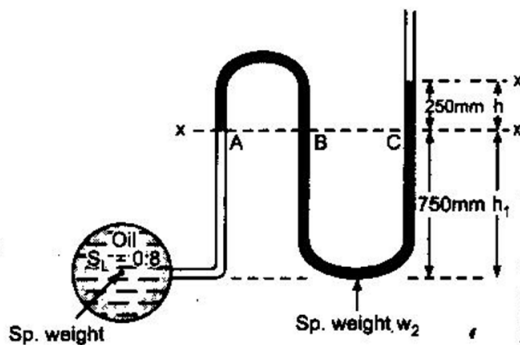

Figure 1
- (b) A manometer connected to a pipeline, containing oil of specific gravity 0.8, is shown Figure 1. Find the pressure of oil in the pipe if A to B and B to C of the manometer is filled with Hg (S = 13.6). [BL: Apply| CO: 2|Marks: 7]